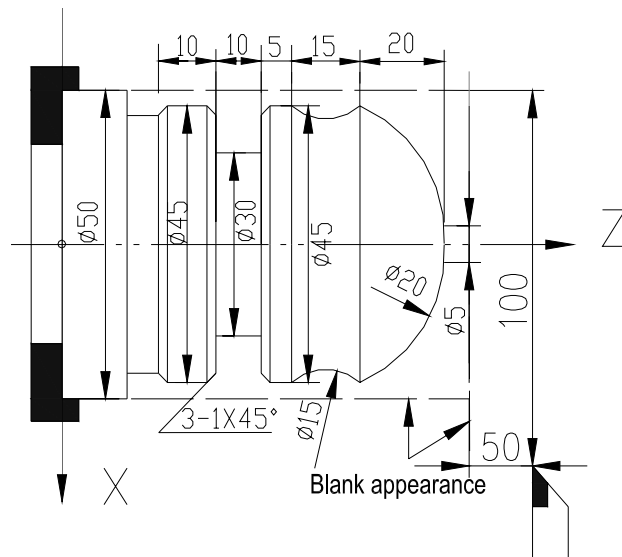

Fig. 5-6 Machining example
**Example 5:** Fig. 5-6. Bar: Φ50×100. Machining with 3 tools: No.1: outer turning tool; No.2: pointed tool; No.3: grooving tool with 3mm width.